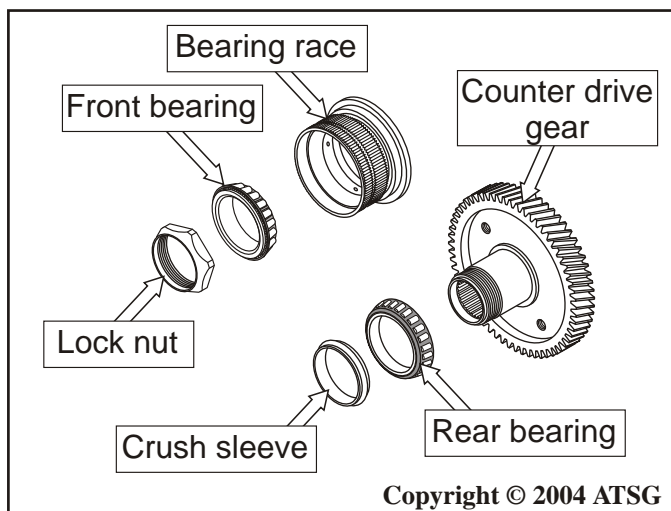

Figure 190
- 134. Refer to Figure 190 for a view of the complete assembly dis-assembled.